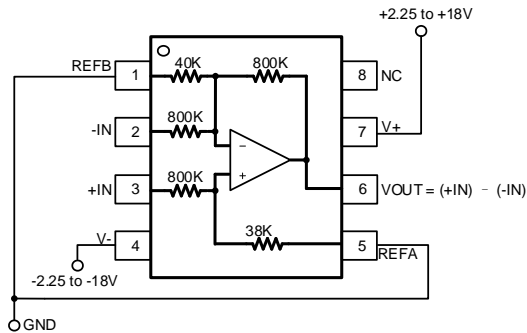
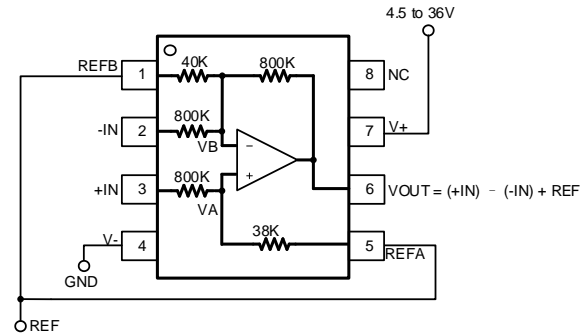

Figure 4 Dual Supply Operation Connections
Figure 5 Single Supply Operation Connections
Figure 4 Dual Supply Operation Connections shows the basic connections for dual-supply operation. Figure 5 shows the basic connections for single-supply operation. 0.1 μ F decoupling capacitors are recommended to be placed close to the power supply pins of the device.
The high common-mode range of the device is achieved by dividing down the input signal with resistor divider. This resistor divider brings both the positive input (+IN) and the negative input (-IN) within the input range of the internal operational amplifier. VA and VB are the inputs of internal operational amplifier in Figure 5, which can be calculated by the voltage at the (-IN), (+IN), REFA, REFB, (V+) and (V-) pin when the device works in the close loop. VA and VB can swing to negative power rail and 1.5V less than positive power rail, so the common-mode input range at the (+IN) input can be calculated by the Equation (3),